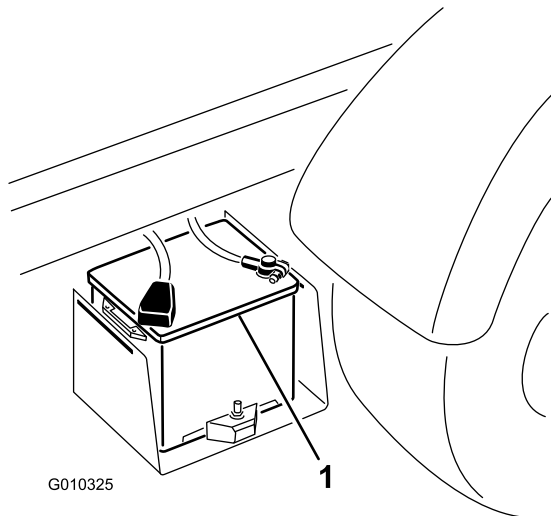

Figure 40
2. Connect a jumper cable between the positive posts of the 2 batteries (Figure 40).